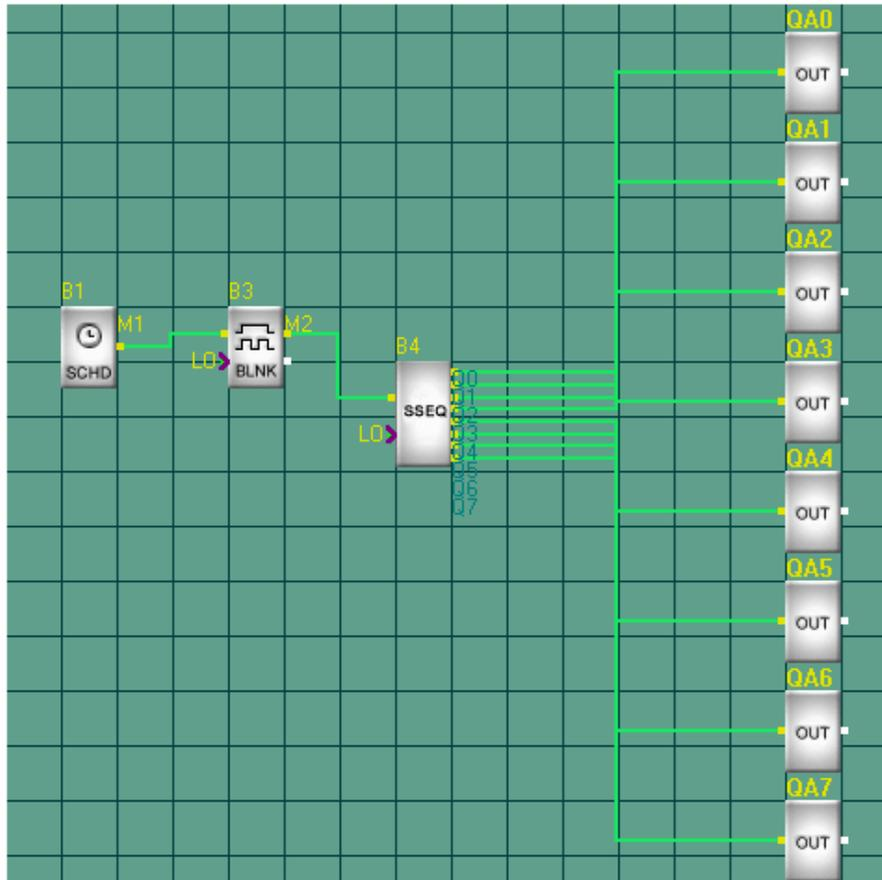

Fig. 10.29 Fountain Control Function Diagram
In Fig. 10.29, the program is the control system of the eight fountains. B1 is the time ON/OFF function block. And the time module is set as DAY. The ON time is set as 17:30 and the OFF time is set as 21:30. Thus every day from 17:30 to 21:30, the output of B1 is high electronic level to activate the SET input of B3. The SET pin of B3 is LO, which means it will never reset B3. Set the time parameter (T) of B3 as 5 and time unit as S. Thus every day from 17:30 to 21:30, the output wide of the output input of B3 is 5S. The pulse of B3 is passed to SET pin of B4. B4 is the stop sequence output function block. The RST pin is LO, which means that it will never reset B4. QA0-QA7 will separately control the engine of each set of the eight watering sets. The SET pin will receive a pulse from B4 and open the fountain engine. When all the engines are open, it will receive a pulse to close the seven engines controlled by QA1-QA7. Thus the point 1 and point 2 of the requirement will be realized. When it is 21:30, the time function block of B1 will be low electronic level and SET pin of B3 will be closed. B3 will stop outputting pulse and only output low electronic level to close the SET pin of B4. Thus the eight output of B4 will close the controlled relay and the connected engines also stop run.